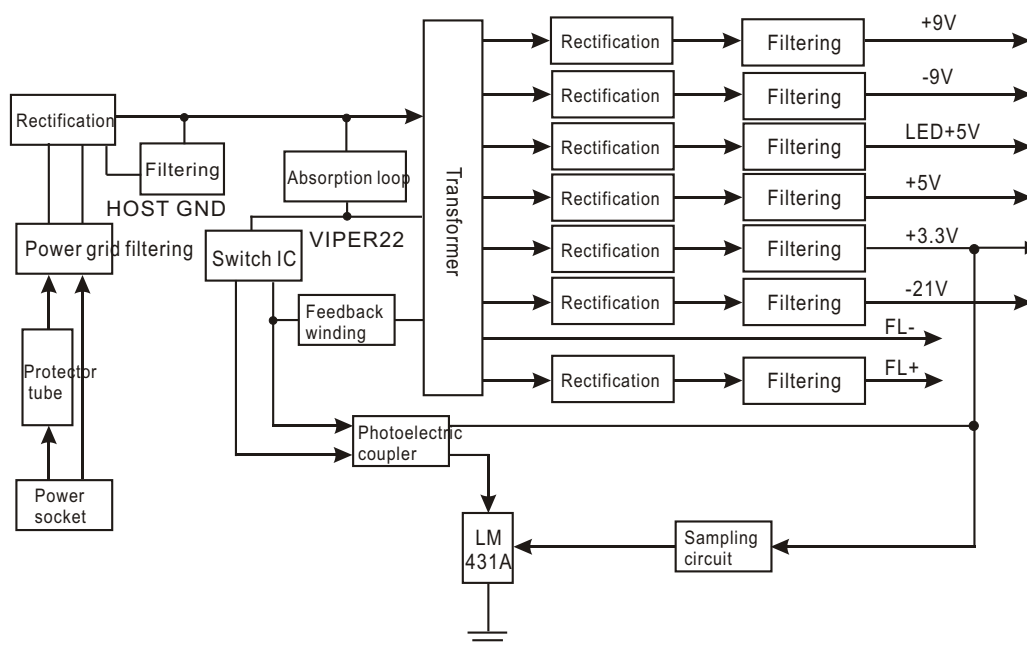

Figure 3.2.12.1 Power circuit block diagram
1. Power circuit block diagram is shown in the figure 3.2.12.1: